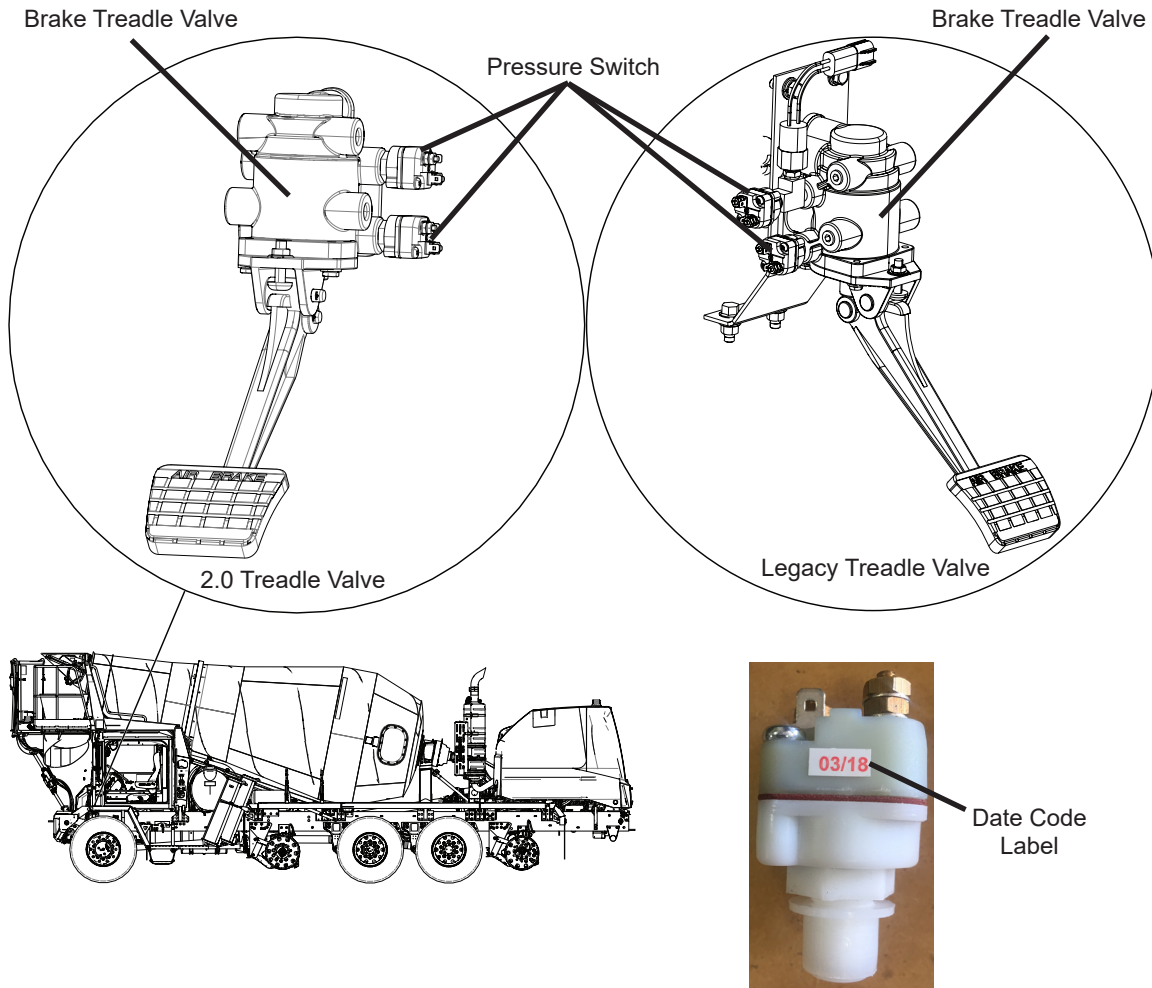

Figure 1. Brake Treadle Valve
3. Locate the two Bendix pressure switches installed on the brake treadle valve, see Figure 1.
4. Check the pressure switch lot number date code label. Suspect lots include 12/19 and 01/20. See Figure 1.